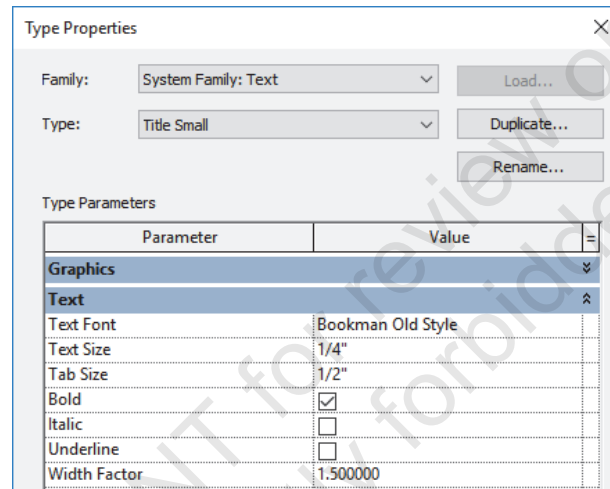

Figure 1–68
6. In the *Text* section, select a font and other options, as needed. Set the *Text Size* to **1/4"**, as shown in Figure 1–68.